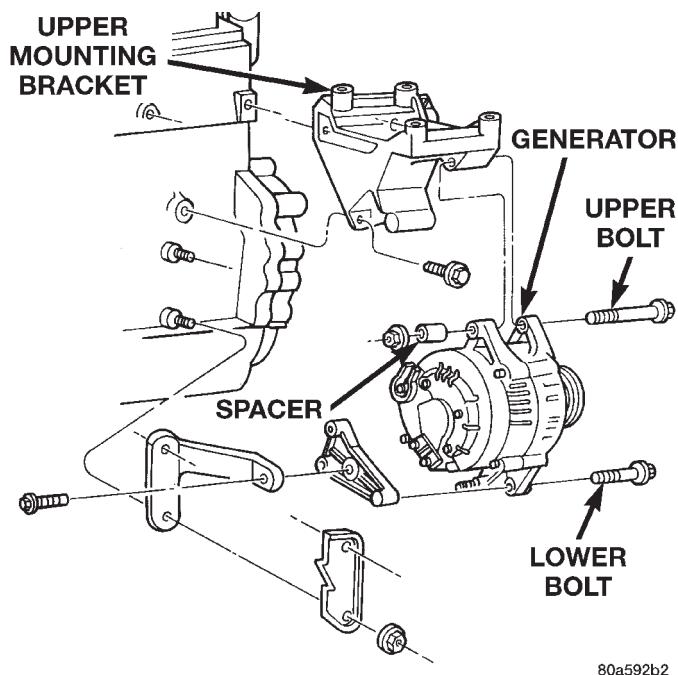

Fig. 3 Remove/Install Generator—2.5L Engine
- (1) Disconnect negative battery cable at battery.
- (2) Remove generator drive belt. Refer to Group 7, Cooling System for procedures.
- (3) Left Hand Drive (LHD) Vehicles Only: Remove generator pivot and mounting bolts/nut (Fig. 3) or